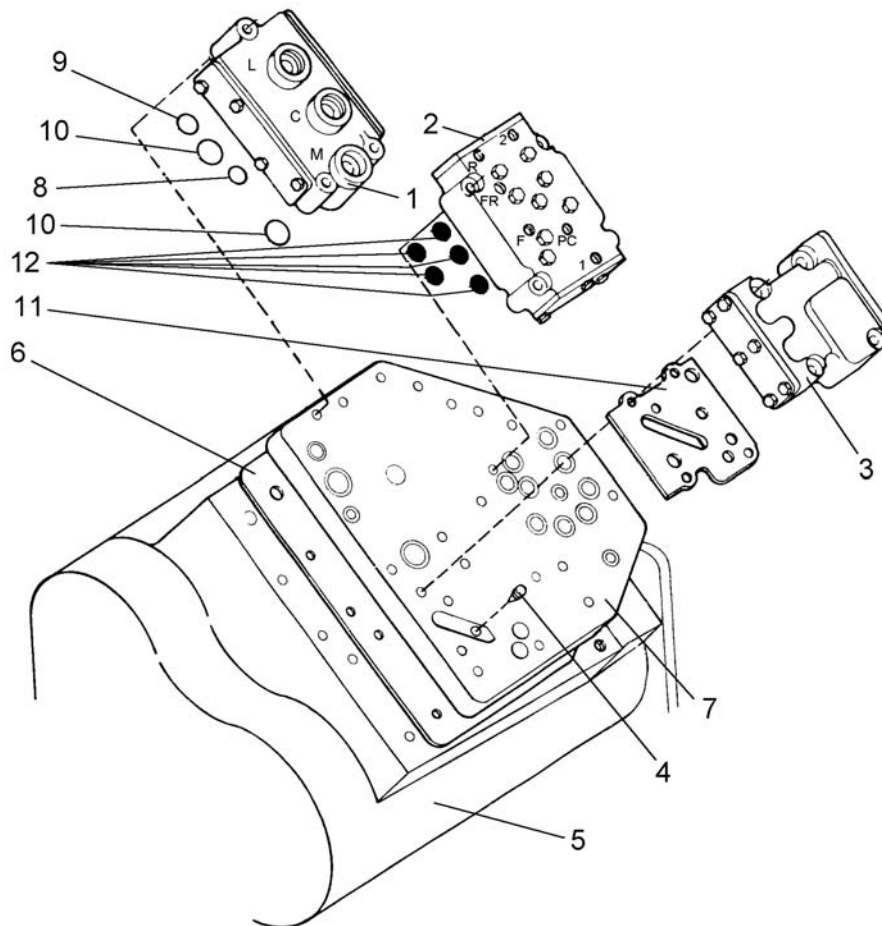

Fig. 7.9. Pennies (Disks) Placing on the Underside of the Range Selector Valve
2. Use pennies (or small metal disks having ϕ 21.3 [mm] and 2 [mm] in diameter and thickness respectively) (12, Fig. 7.9) and place them over the ports for FC, RC, 1C, 2C, 3C on the underside of the range selector valve (2) (the US penny will just fit inside transmission manifold (7) ports O-rings, so they will be held in place). Reinstall the valve and tighten it down, with coins (or metal disks) in place. This effectively shuts off any flow to the clutch packs so no clutch engagement is possible, but the lube flow is not interrupted, so there is no danger of damage to the transmission during this test.